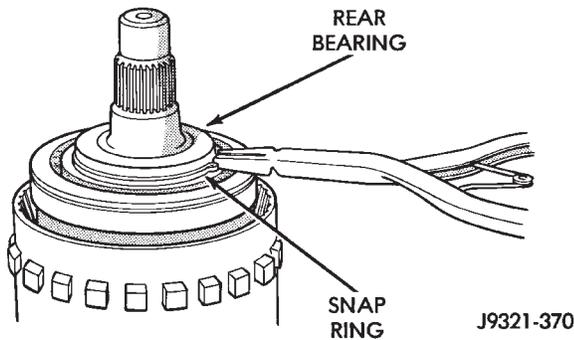

Fig. 239 Rear Bearing And Snap Ring Installation
- (7) Install rear bearing and snap ring on output shaft (Fig. 239). Be sure locating ring groove in bearing is toward rear.